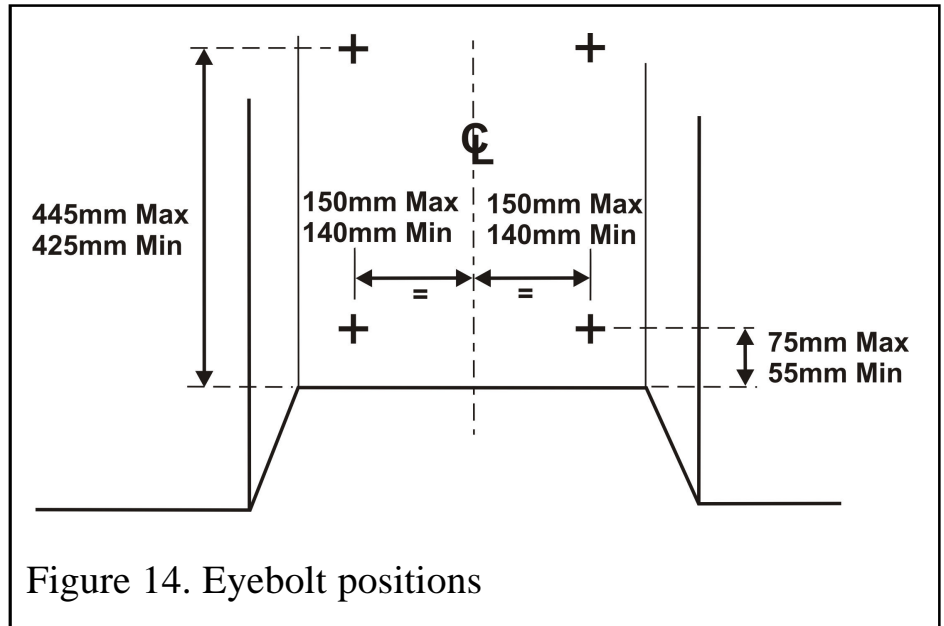

Figure 14. Eyebolt positions
- Drill four holes in the rear wall of the fireplace for the eyebolt plugs. The holes should be drilled within the range of positions shown in figure 14 using a no.12 masonry drill. The holes should be equidistant each side of the centre line of the fireplace to ensure that the appliance finishes centrally in the opening when tension is applied to the cables.